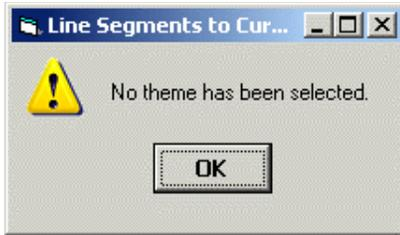

Figure 2
- 3 **Scroll** down in the {CEDRA-Polygon-Tools} menu combo box, and **select** the [Line Segments to Curve] menu command (see Figure 1). If the prerequisite conditions are not met, a warning message such as that shown in Figure 2 or 3 will be displayed. At this point click the OK button and make the appropriate adjustments.